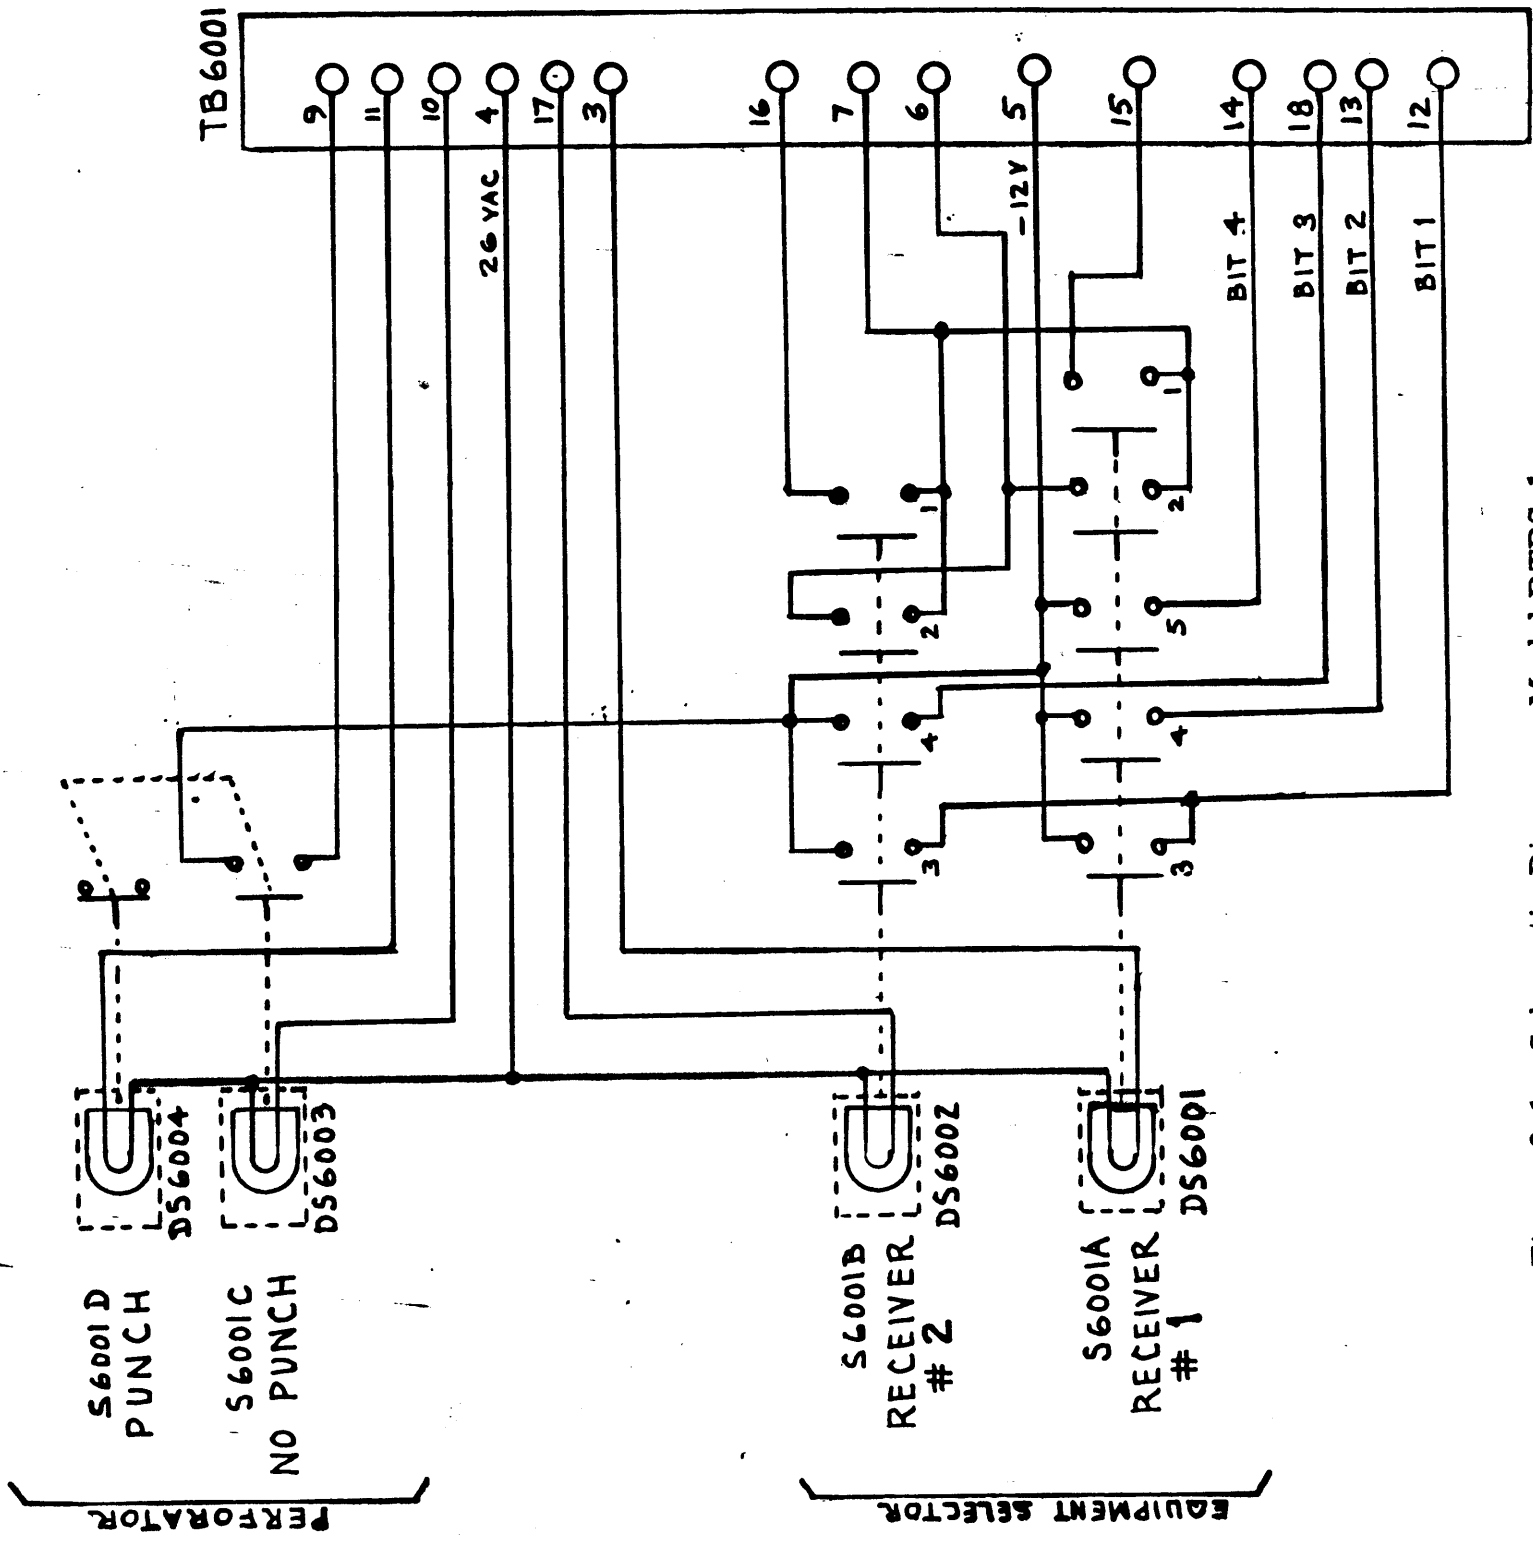

Figure 8-1. Schematic Diagram, Model RTRS-1
- c. Schematic diagram (Figure 8-1.)
b. TROUBLESHOOTING PROCEDURES. - The troubleshooting procedures listed in table 5-1 provide normal indications of all the control functions of the RTRS. If a normal indication is not observed, perform the procedures listed in the third column. If the fault cannot be located after a thorough check of the RTRS, check the input levels to the RTRS from all associated equipment. When troubleshooting, refer to the schematic diagram, figure 8-1.